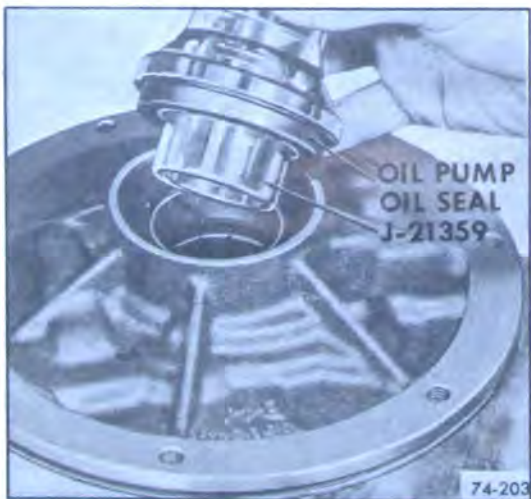

Figure 74-192
3. Using Installer J-21359 tap in new oil seal. See figure 74-192.